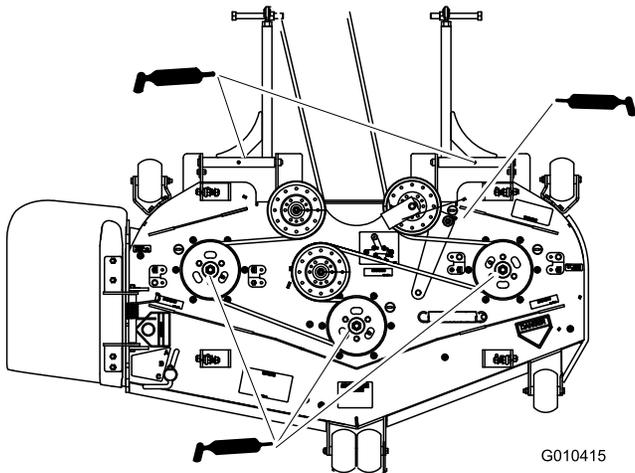

Figure 37
4. Grease the three spindle bearings until grease comes out the lower seals (Figure 37).
5. Grease the idler arm on the mower deck (Figure 37).
6. Grease the fittings on the push arms (Figure 37).